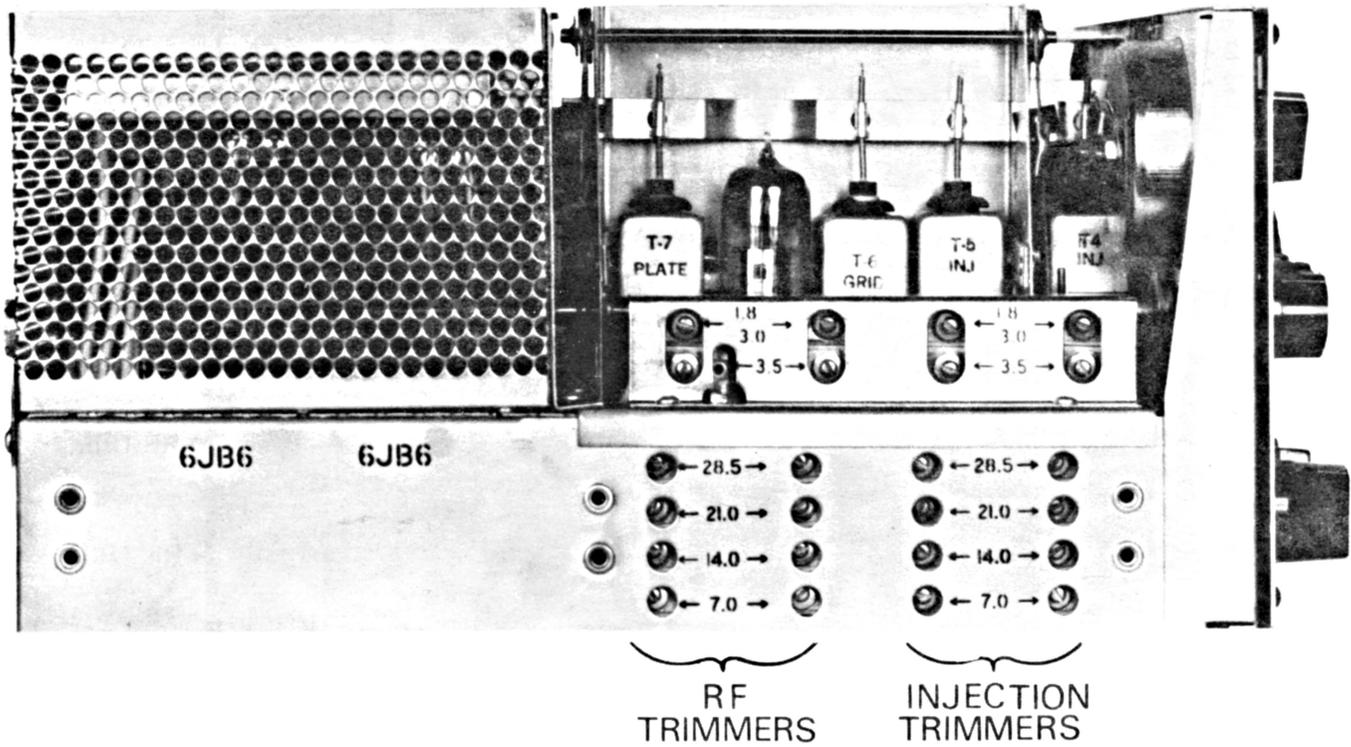

Figure 5-3. RF and Injection Trimmers
4. Refer to figure 5-3. With the plate current at 200 mA or less, tune the two 3.5 MHz RF trimmers for maximum plate current. The RF trimmers are in the two columns nearest the rear of the chassis, along the left side. If the plate current exceeds 200 mA, reduce it by turning down the GAIN control.